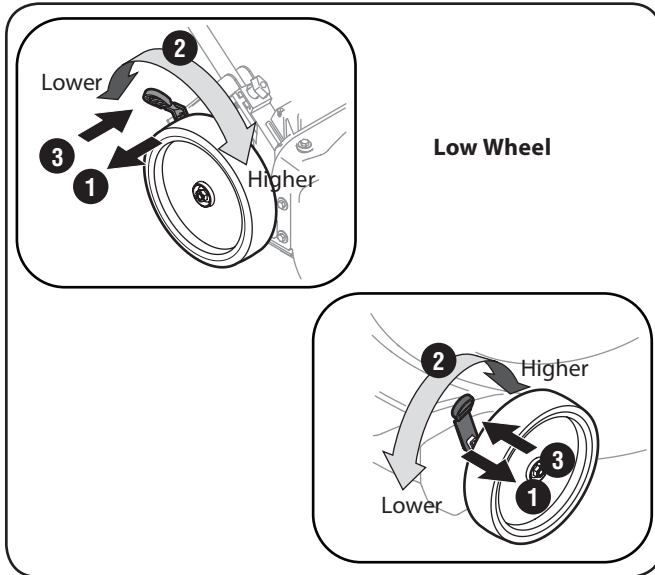
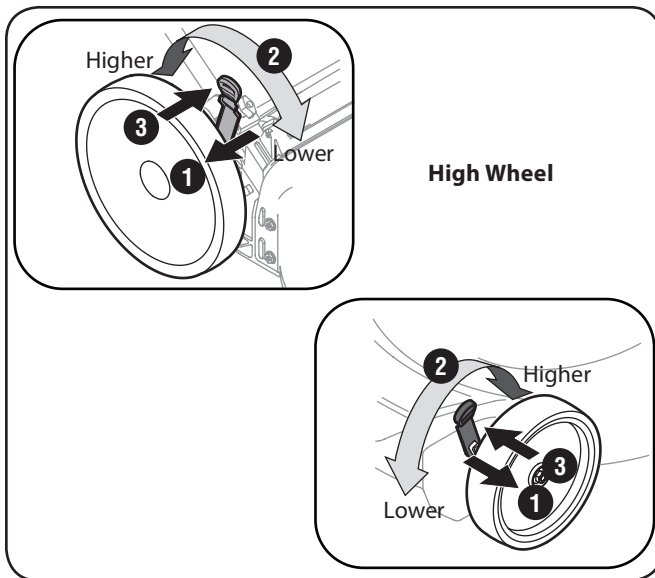

Figure 3-10
Figure 3-11
2. Slide lever to desired position for a change in cutting height. See Figure 3-10 and Figure 3-11.